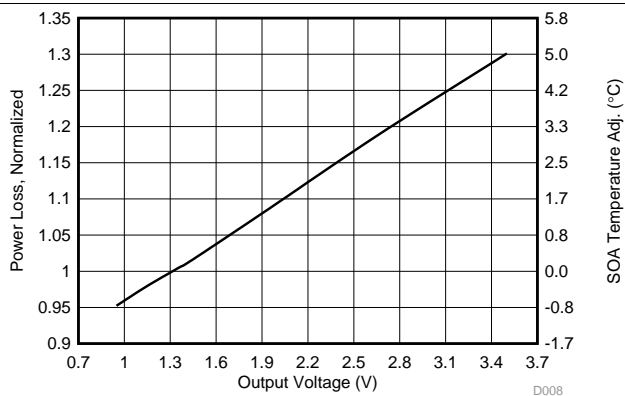

Figure 8. Normalized Power Loss vs. Output Voltage
- Normalized Power Loss for output voltage ≈ 1.01 (Figure 8)
- SOA adjustment for output voltage $\approx 0.17^\circ\text{C}$ (Figure 8)